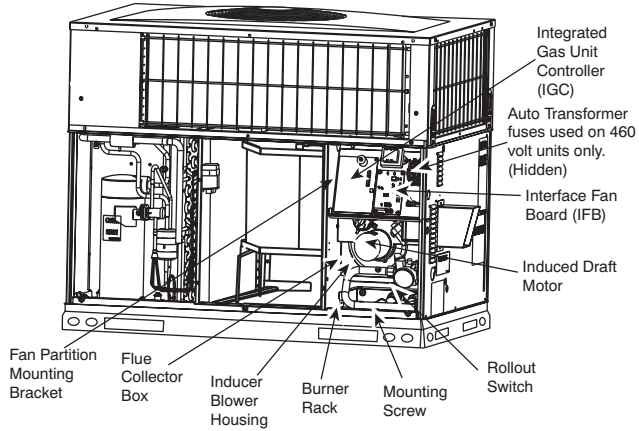

Fig. 30 – Blower Housing and Flue Collector Box
2. Remove the 11 screws holding the flue collector box cover (See Fig. 30) to the heat exchanger assembly. Inspect the heat exchangers.
Unit is equipped with a direct spark ignition 100 percent lockout system. Ignition module (IGC) is located in the control box (See Fig. 30). Module contains a self-diagnostic LED. During servicing, refer to label diagram or Table 14 in these instructions for LED interpretation.
5. Remove fan partition mounting bracket (2 screws located on the left side of control compartment on the fan partition panel). Slide bracket forward, bottom first, to remove. (See Fig. 30.)
7. Remove the mounting screw that attaches the burner rack to the unit base (See Fig. 30).
8. Partially slide the burner rack out of the unit (see Fig. 30 and 33). Remove ignitor and sensor wires at the burner assembly. Remove wires to rollout switch.
9. Slide the burner rack out of the unit (See Fig. 30 and 33).